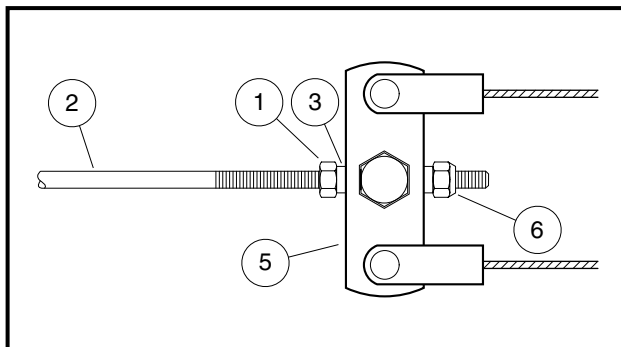

Figure 6-30 Front Equalizer Adjustment
2. **Four-wheel brake vehicles only:** Loosen the front brake equalizer rod (**Figure 6-30, Page 6-15**).
- 2.1. **Four-wheel brake vehicles only:** Tighten the nylon lock nut (6) on the front equalizer rod (2) to 35 in-lb (4 N·m) (**Figure 6-30, Page 6-15**).
- 2.4. Hold the lock nut (6) on the front equalizer rod (2) in place with a wrench and tighten the jam nut (1) to 13 ft-lb (17.6 N·m) (**Figure 6-30, Page 6-15**).
3. Loosen the equalizer retaining nuts (1 and 6) on the front equalizer rod (2) to slightly loosen the brake cable (**Figure 6-30, Page 6-15**).